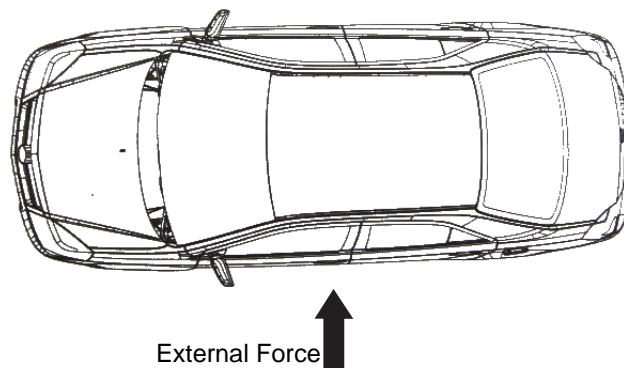

Fig. 5-16 Body Side Center Acted by External Force in Upright Direction
4. Body Side Center Acted by External Force in Upright Direction (Fig. 5-16)
As shown in Fig. 5-16, when the body side center is acted by an external force in the upright direction, check the following positions: